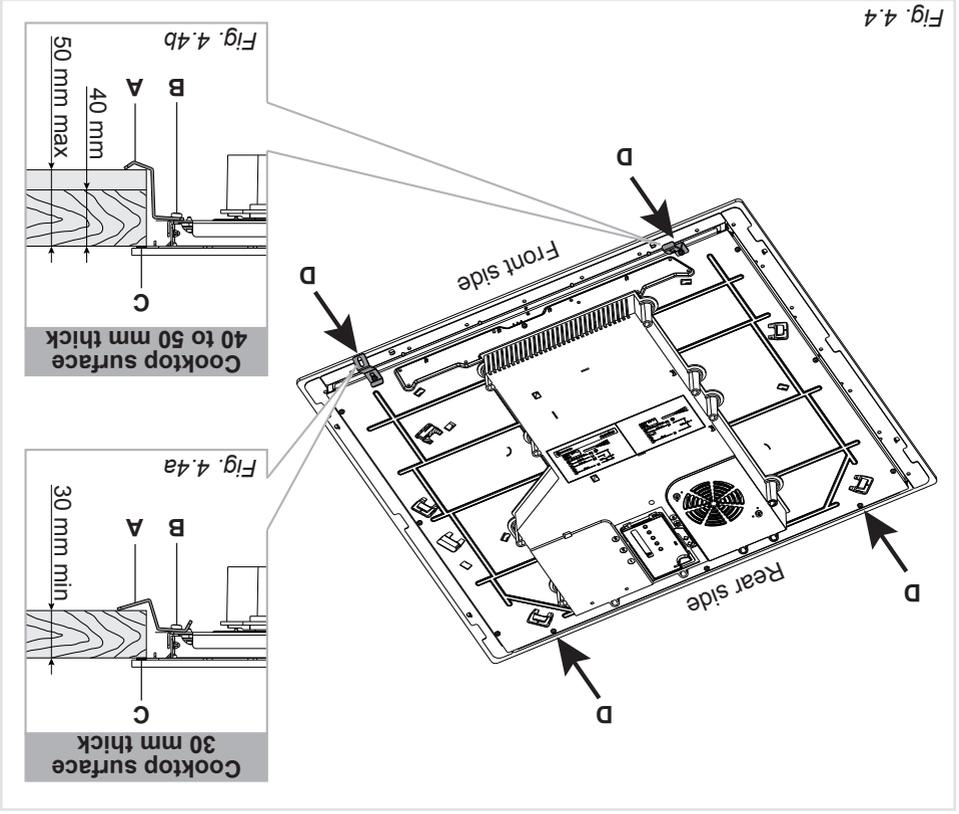

Fig. 4.4
Il kit comprende 4 alette "A" e 4 viti autofilettanti "B" (figure. 4.4, 4.4a, 4.4b).
- The kit includes 4 tabs "A" and 4 self-threading screws "B" (figs. 4.4, 4.4a, 4.4b).